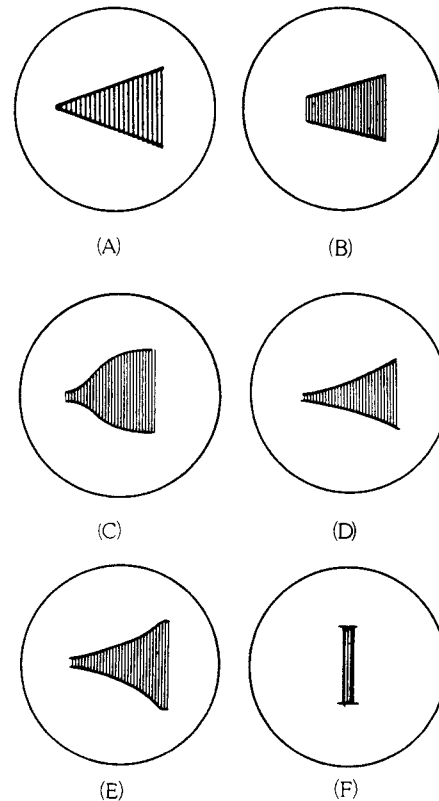

Figure 7
- (1) Place the MODE SWITCH TO THE TX MONITOR position.
- (2) Place the ENVEL/TRAP switch in the TRAP position
- (3) Place the V. INPUT switch in the IF position.
- (4) Activate the 1500 and 1900 Hz tone generator switches.
- (5) Activate the transmitter and amplifier, and adjust the H. GAIN control for the desired pattern height. Proper operation of the amplifier, and operating difficulties, are shown in Figure 7.